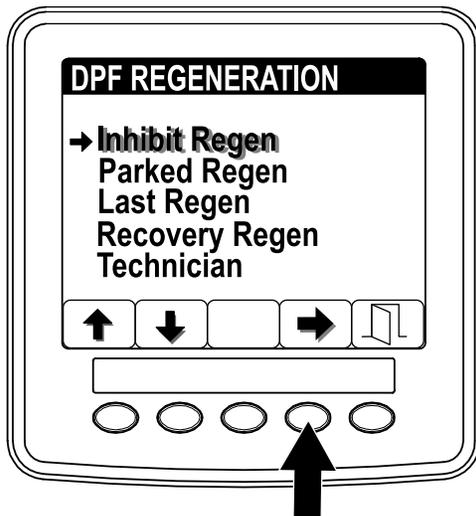

Figure 12
2. Press the button 4 to select the Inhibit Regen entry (Figure 12).
1. Access the DPF Regeneration menu, and press buttons 1 or 2 to scroll down to the INHIBIT REGEN option (Figure 12).